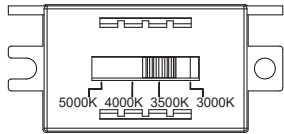

Fig. 4
- First, remove the cover plate screws (D) and cover plate from the fixture. Second insert two crystals along the U-shaped slot of the fixture. Secure the top cover plate to the fixture using cover plate screws (D).
- Remove the mounting screw (B) and Silicone Gasket (C) from the fixture.
- The lamp can switch between four color temperatures (3000k-3500k-4000k-5000k), which can be adjusted to your preference with the switch in the fixture (Fig. 4). Note: (i) The switch comes with a detachable cover, remove the cover prior to adjusting the color temperature, fasten the cover after adjustment is made. (ii) Fixture must be powered off to adjust the CCT setting, after each CCT adjustment cycle power on, off then on to show new CCT setting.